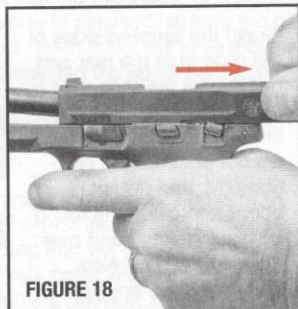

FIGURE 18
- Keep the muzzle still pointed in a safe direction, and keep your finger off the trigger and outside the trigger guard, grasp the serrated sides of the slide from the rear with the thumb and fingers, (FIGURE 18) and briskly draw the slide fully rearward in order to extract any cartridge from the barrel chamber and clear it from the pistol.